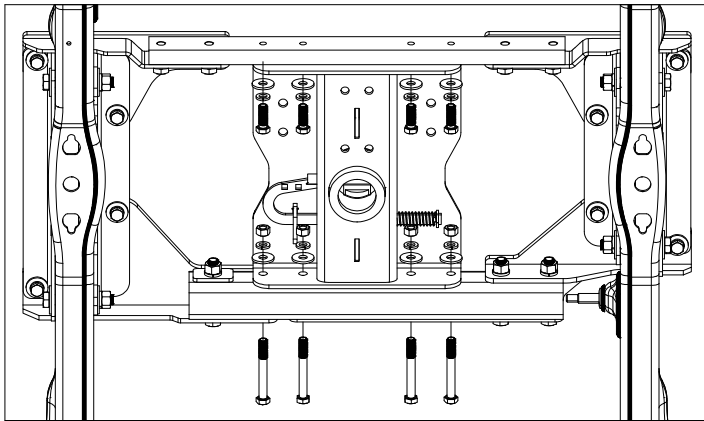

Figure C2: Bottom of truck frame looking up from the back of truck towards the cab
2. **Install Hardware.** Attach the center to the front cross member by passing 1/2" x 4" bolts. Through the washer plate, and cross member and into the center section. Secure the bolts with flat washers, lock washers, and nuts. Next, attach the center to rear cross member with 1/2" x 1-1/2" bolts, flat washers, and lock washers, see Figure C2. Do not fully tighten hardware connections at this time.